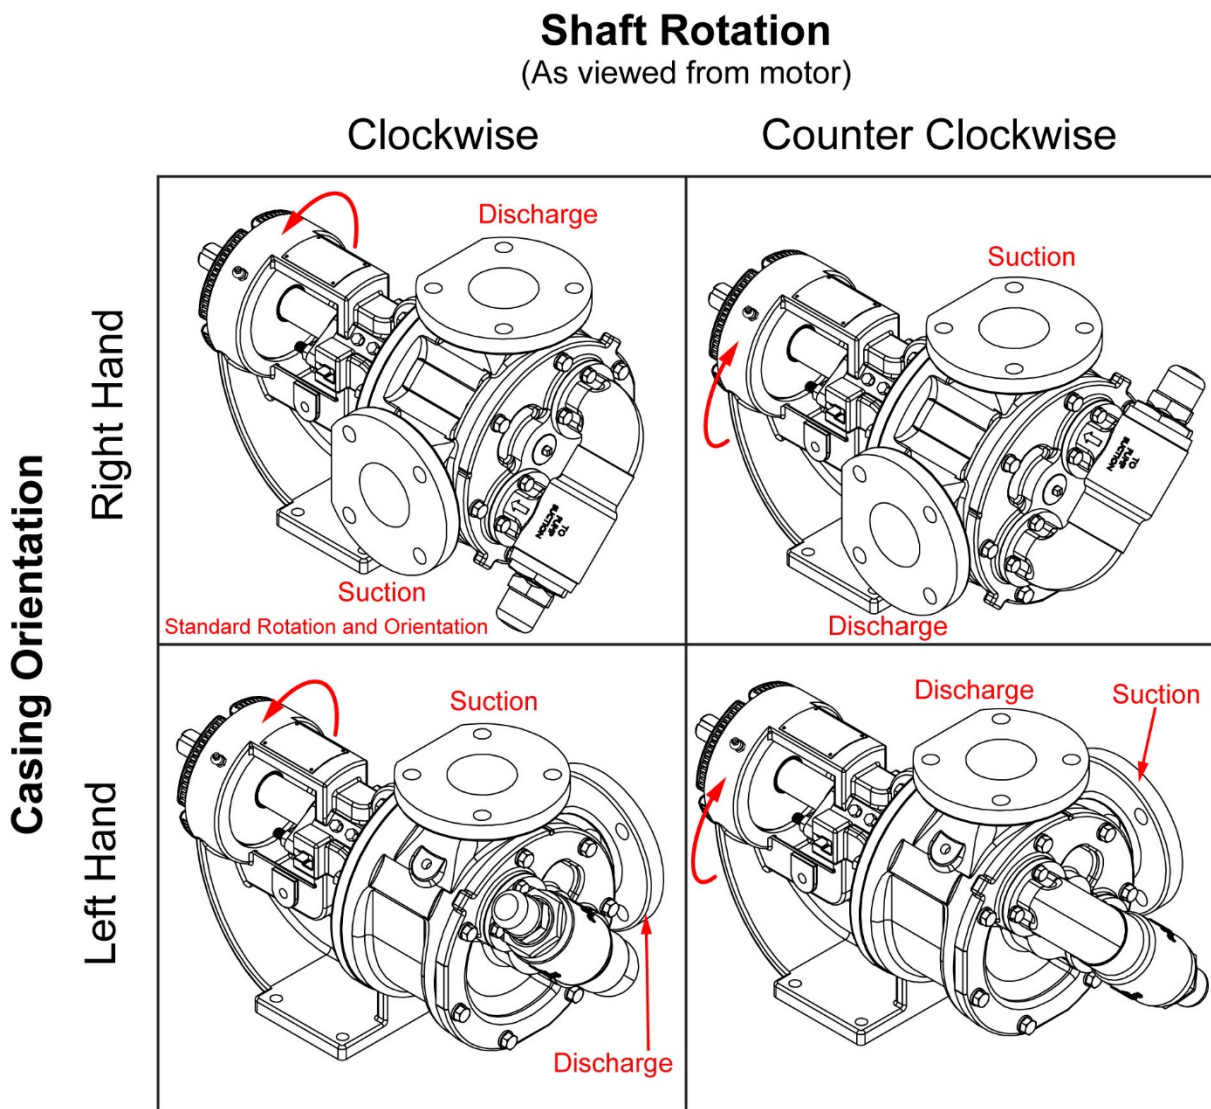

Figure 6-4: Wet end configurations
There are four main different wet end configurations for the VV40 pump. Refer to Figure 6-4 for the different configurations. The configurations are dependent on two variables, casing orientation and shaft rotation. The configurations are important to understand when installing the casing to the bracket and the internal relief valve on the head. The internal relief valve must be positioned correctly or the valve will not work correctly, potentially damaging equipment, severely injuring or causing death to personnel.
The pump can operate equally well in a clockwise or counterclockwise rotation. The desired port to be suction determines shaft rotation. Port closest to where pumping elements (gear teeth) come out of mesh is suction port. If fitted with a pressure relief valve ensure the adjustment knob is near the suction port. See Figure 6-4 for illustration.
5. Correct pump rotation as desired, see Figure 6-4 on page 17.